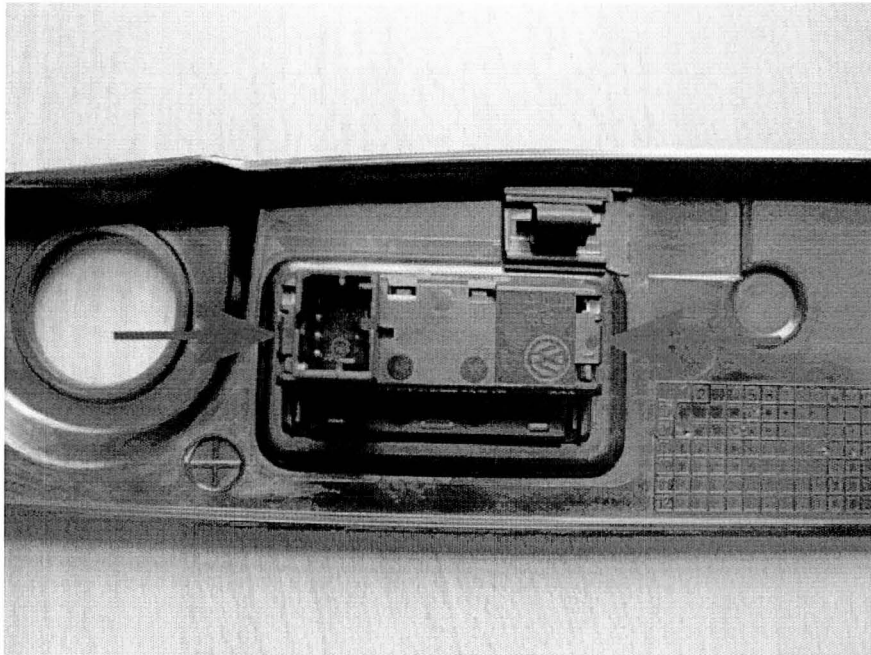

Figure 1
3. Remove the switch from the cover panel by pressing the two retaining clips inboard and remove the switch from the cover panel (Figure 1)